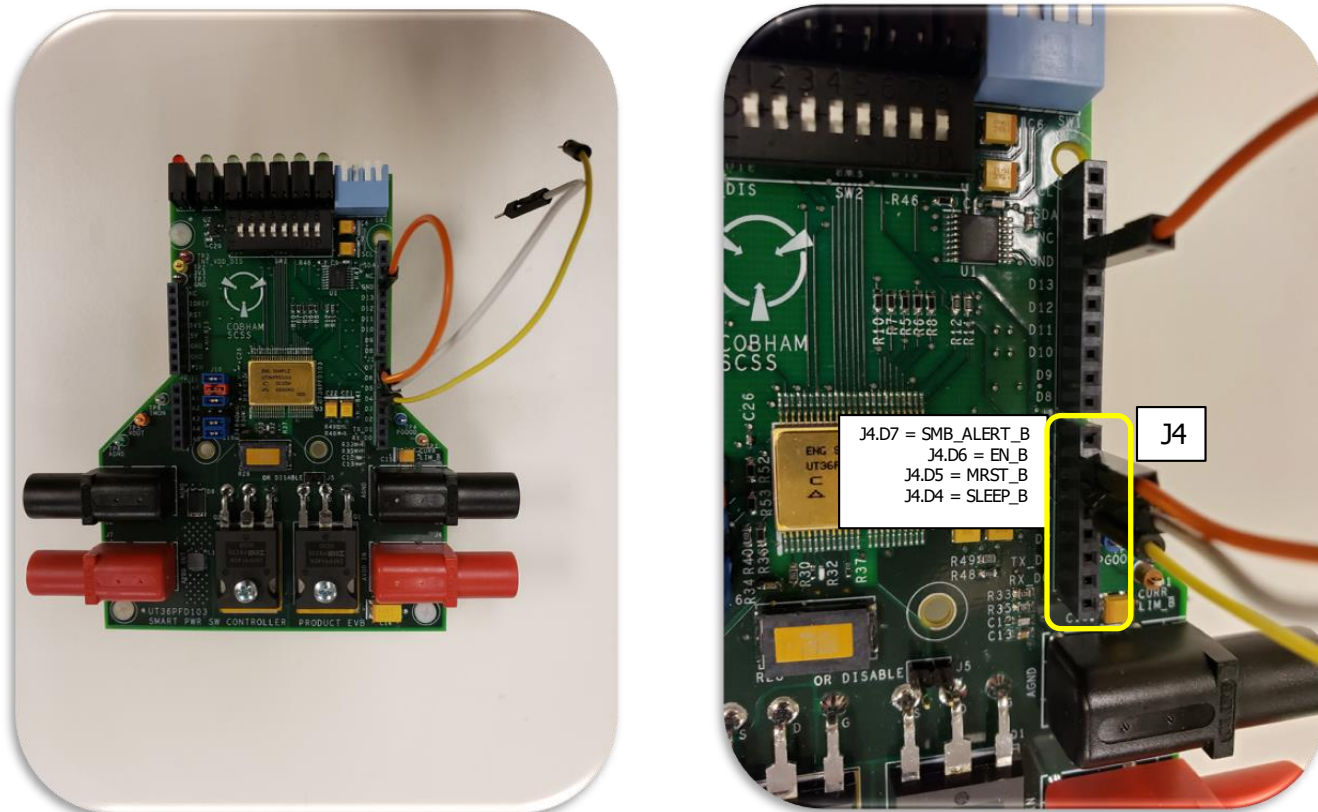

Figure 18: Jumper Wires Required to Invoke Certain Operating Conditions on SPSC-EVB-R0
Step 4) In order to operate the SPSC-EVB-R0, the EN_B input must be LOW. This is most easily accomplished by running a jumper wire from J4.D6 to a nearby GND point. As shown in Figure 18, an orange jumper wire is run from J4.D6 (EN_B) to J1.GND.